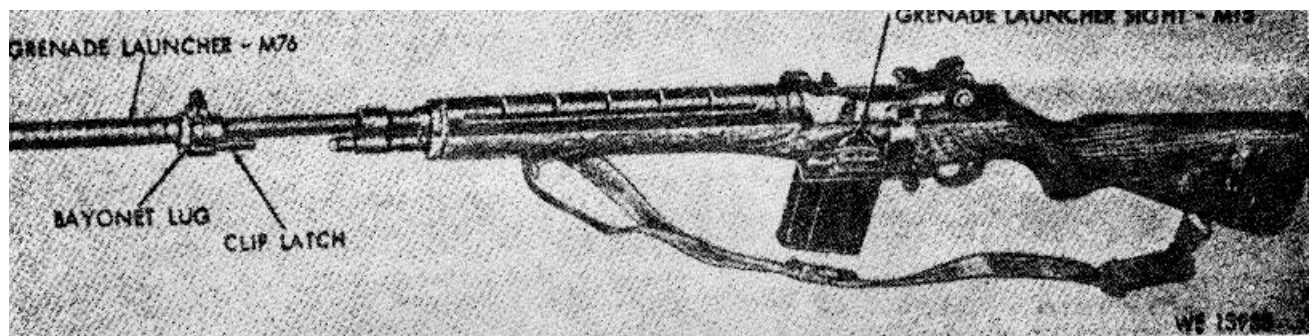

Figure 1-5. 7.62-MM Rifle ,M14 and accessories.
c. Grenade Launcher Sight, M15 (fig 1-5) is used in conjunction with the Grenade Launcher, M76, (fig 1-5) when launching grenades from the 7.62-MM Rifle, M14. It consists of mounting scale plate and sight bar assembly. The mounting plate is attached to the left side of the stock by two screws. The sight bar assembly is attached to the mounting plate.